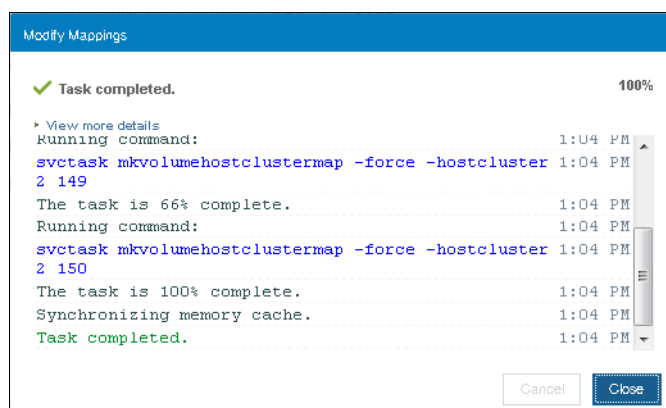

Figure 5-93 Volumes mapped to host cluster
- Click **Map Volumes** and then the selected volumes will be mapped to the host cluster as shown in Figure 5-93.